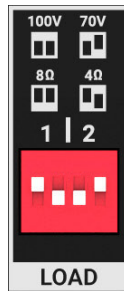

Fig. 7
- **Fig 7** - CLA804 Power Share selection arrow is set to CH 1 50W (100V) / CH 2 350W (8Ω) and CH 3 50W (100V) / CH 4 350W (8Ω)